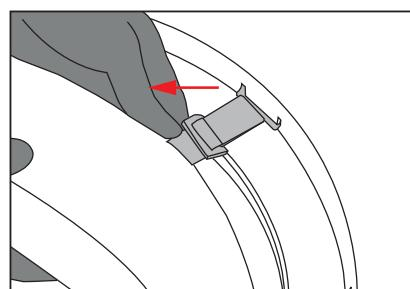

Figure 6.2
- Next, on the rear of the seat there are five straps. Starting with one of the two straps on the outside, turn the plastic clip so it can be pushed through the slot, then pull the strap all the way through the slot. See Figure 6.2.